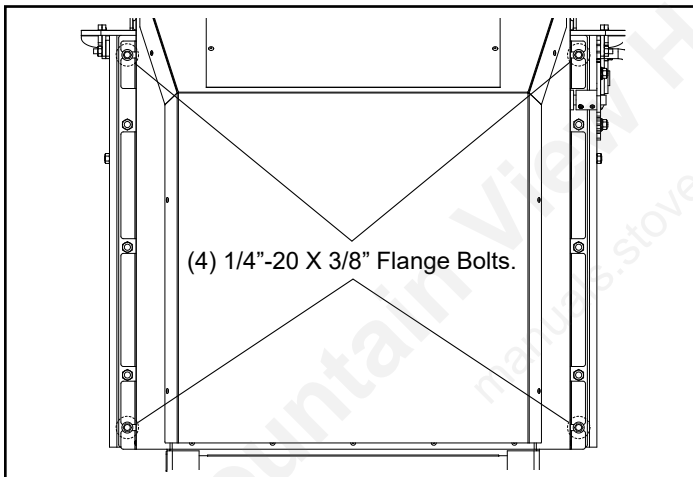

Figure 2
2. Remove (4) 1/4"-20 X 3/8" flange bolts. Figure 2.